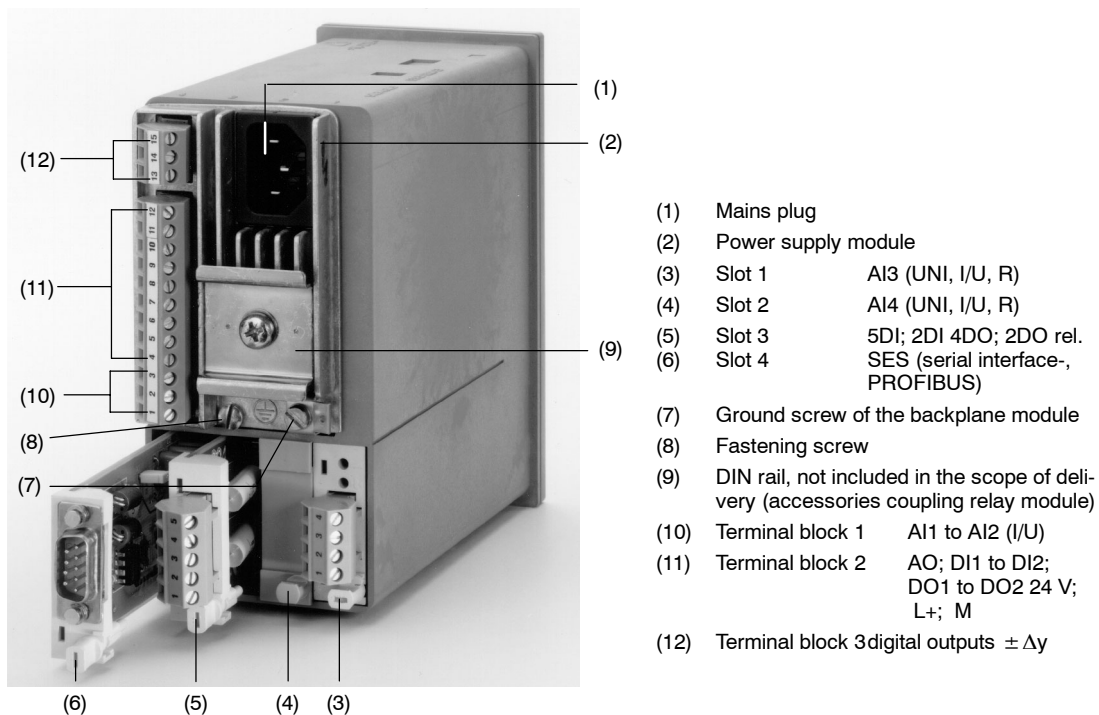
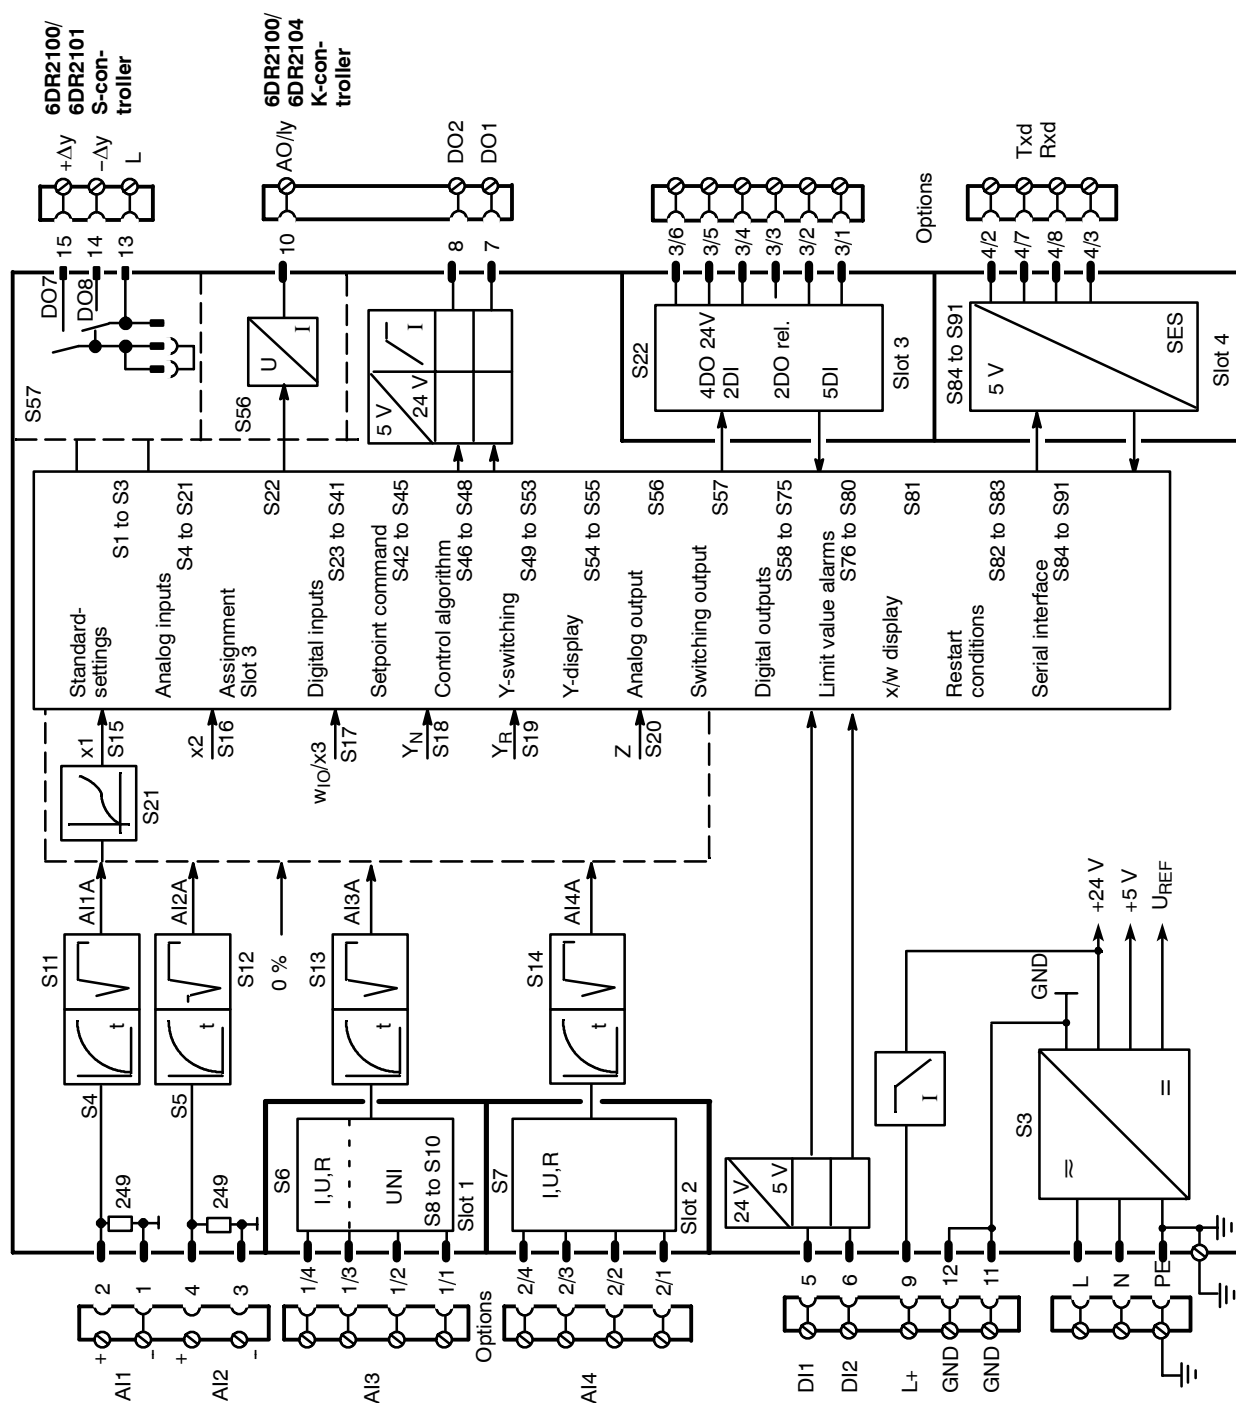

Figure 4-8 Controller backplane with terminal assignment of the standard controller
Figure 4-9 Block diagram SIPART DR21
Connect the PE conductor to the ground screw (see figure 4-8, page 128) on the back of the controller. When connecting to 115 or 230 V AC-mains supply, the PE conductor can also be connected through the three-pin plug (see figure 4-9, page 129). The controller's ground-connection may also be connected with the PE conductor (grounded extra low voltages).
The SIPART DR21 is designed with a high electromagnetic compatibility (EMC) and has a high resistance to HF-interference. In order to maintain this high operational reliability we automatically assume that all inductances (e.g. relays, contactors, motors) installed in the vicinity of or connected to the controllers are assembled with suitable suppressors (e.g. RC-combinations)! To dissipate interference, the controller must be connected at the PE-terminal of the cast body (figure 4-8, page 128 item 5) with good HF-conductance.
1) The connection between the PE conductor screw (figure 4-8, item 5, page 128) to ground must be established additionally for high electromagnetic compatibility (EMC) in 115/230 V-controllers. This connection must also be low resistive for high frequencies (Cu-band or Hf-strand). Alternatively at least 2.5 mm2 flexible should be used.